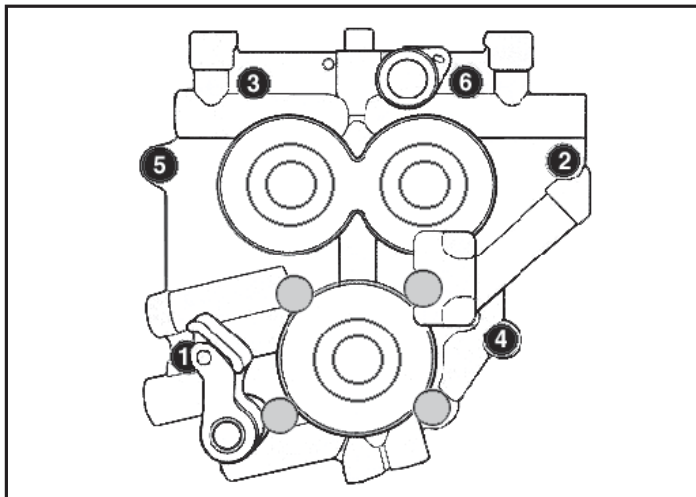

Figure 2
6. Following sequence shown in **Figure 2**, alternately loosen and remove cam support plate bolts.
- Loosely install support plate screws with a drop of blue thread locker Alternately tighten screws to 95 in-lbs. torque following sequence shown. See Figure 2 on Page 4.
**Support plate screws that pass through alignment dowels (See positions 1 & 2 in Figure 2) can be easily stripped when applying maximum 120 in-lbs. torque as recommended in factory service manual.**